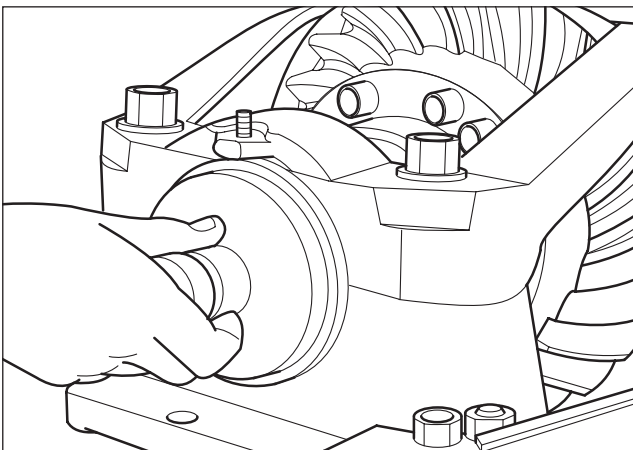

Fig. 2.83
6. Using service tool CT 27 Screw up the differential bearing adjusters to preload the bearings prior to measuring gear backlash. (Fig. 2.83)